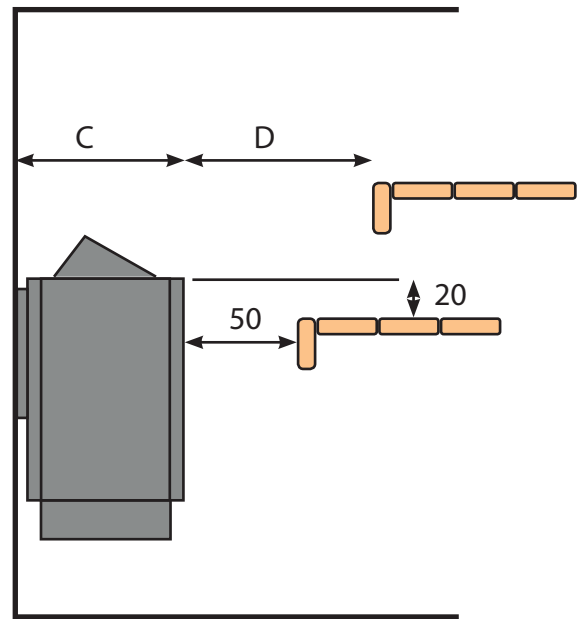

Fig. 3d
- ix. The sauna heater becomes very hot when operating and must be guarded to protect incase of accidental contact, please see the sizes in fig 3d and also refer to charts below.